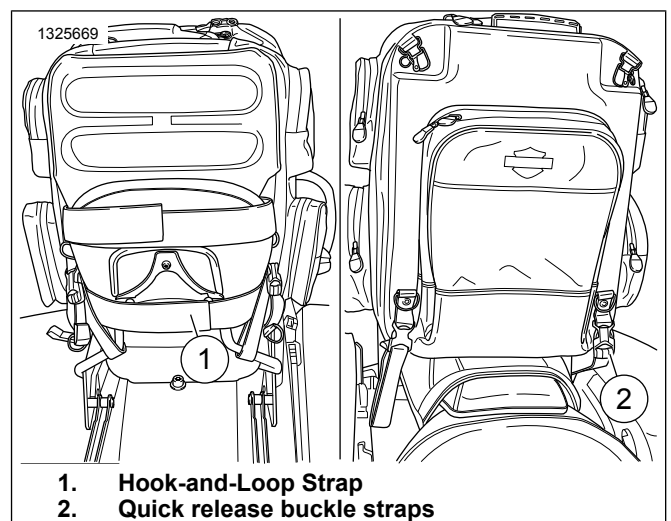

Figure 11. Weekender Bag
- a. Figure 11 Sissy bar mounting hook-and-loop straps around sissy bar.
- b. Figure 11 Secure four straps with quick-release buckles to luggage rack, sissy bar or other vehicle structure.
4. Figure 11 Position bag on passenger pillion seat or luggage rack.